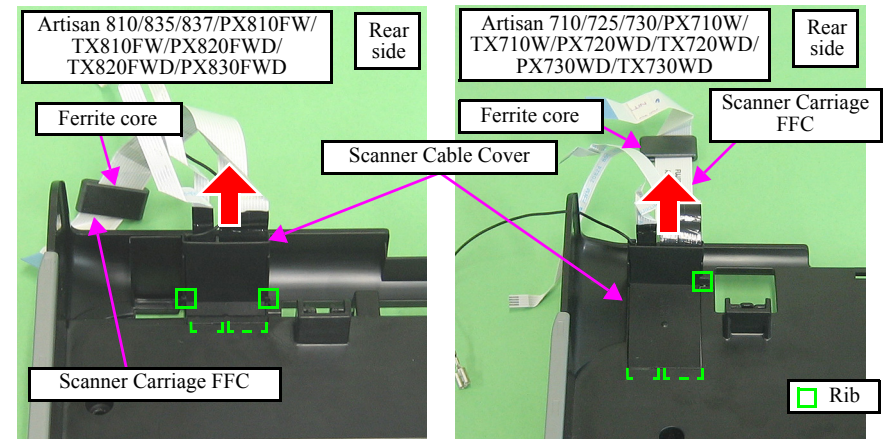
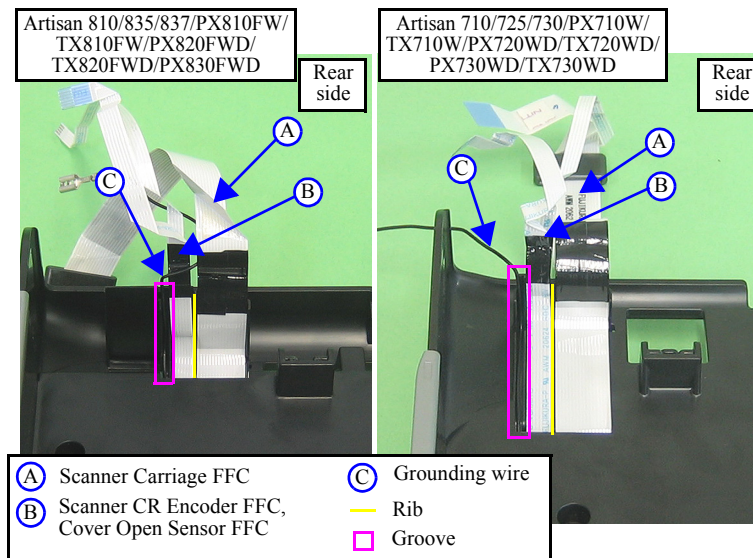
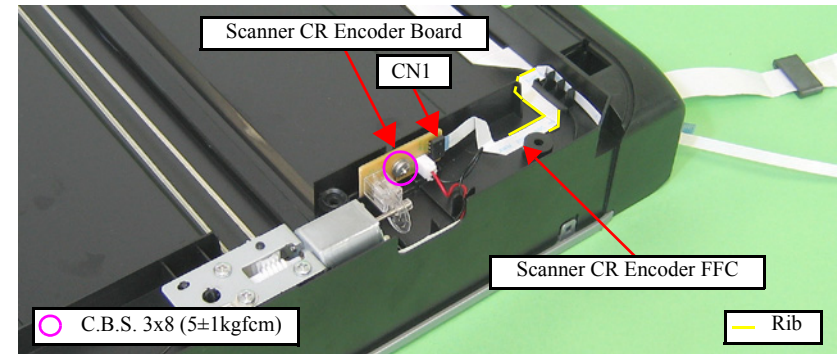

Figure 4-119. Removing the Scanner Carriage Unit (1)
Figure 4-122. Attaching the Scanner Cable Cover
Figure 4-123. Removing the Scanner CR Encoder Board
- Route the grounding wire as shown below and in Fig. 4-122.
When routing the Scanner CR Encoder FFC of Artisan 810/835/837/PX810FW/TX810FW/PX820FWD/TX820FWD/PX830FWD, route it as shown in Fig. 4-119 and Fig. 4-123. See Fig. 4-122 and below for Artisan 710/725/730/PX710W/TX710W/PX720WD/TX720WD/PX730WD/TX730WD.
- When routing the Cover Open Sensor FFC, route it as shown below and in Fig. 4-122.